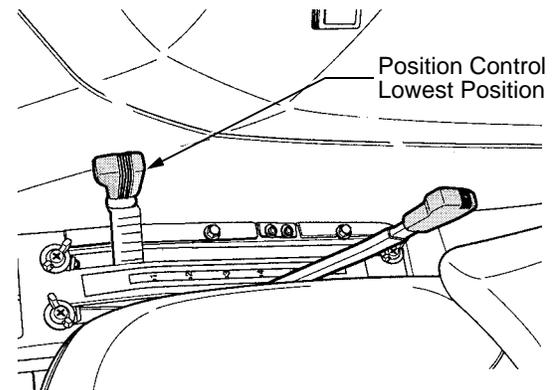

Figure 24
- Place the position control lever in the lowest position. See Figure 24.